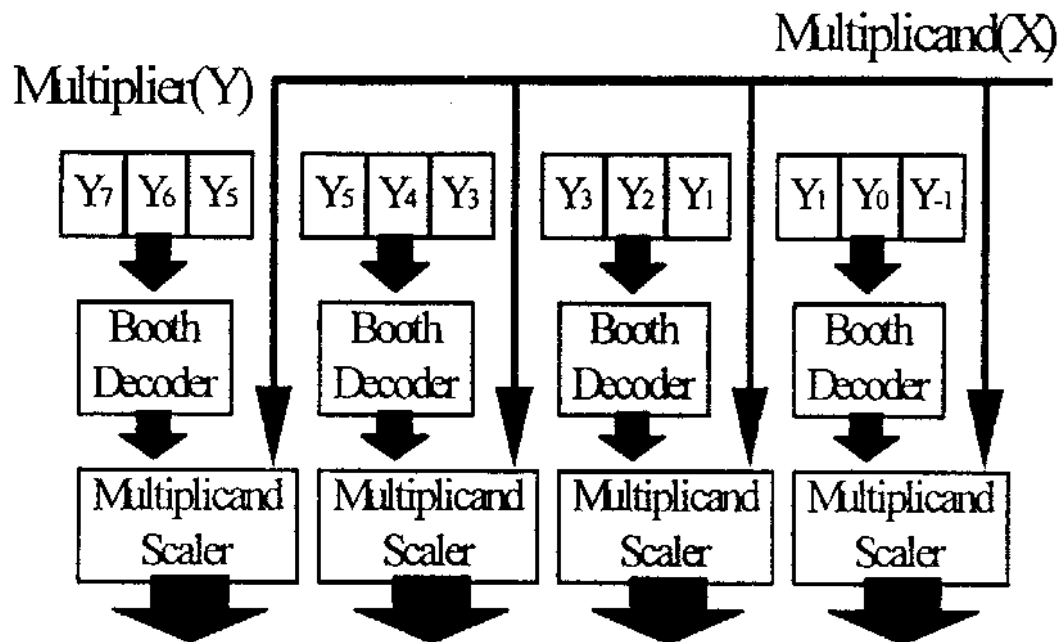

Fig.1
(1) Show your block diagram as shown in Fig.1 below (example for the case of 8-bit; booth decoder and Multiplicand scale corresponding to Booth Encoder and Booth selector of Fig.10.80). For each block, you shall show its logic design diagram. Indicate the critical path. Explain your design concepts (40).